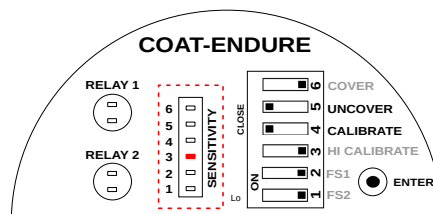

Figure 24: Sensitivity Bar Display
- The Sensitivity Bar Display will indicate the current sensitivity value. As can be seen in the Figure 24, the value been shown here is 3.